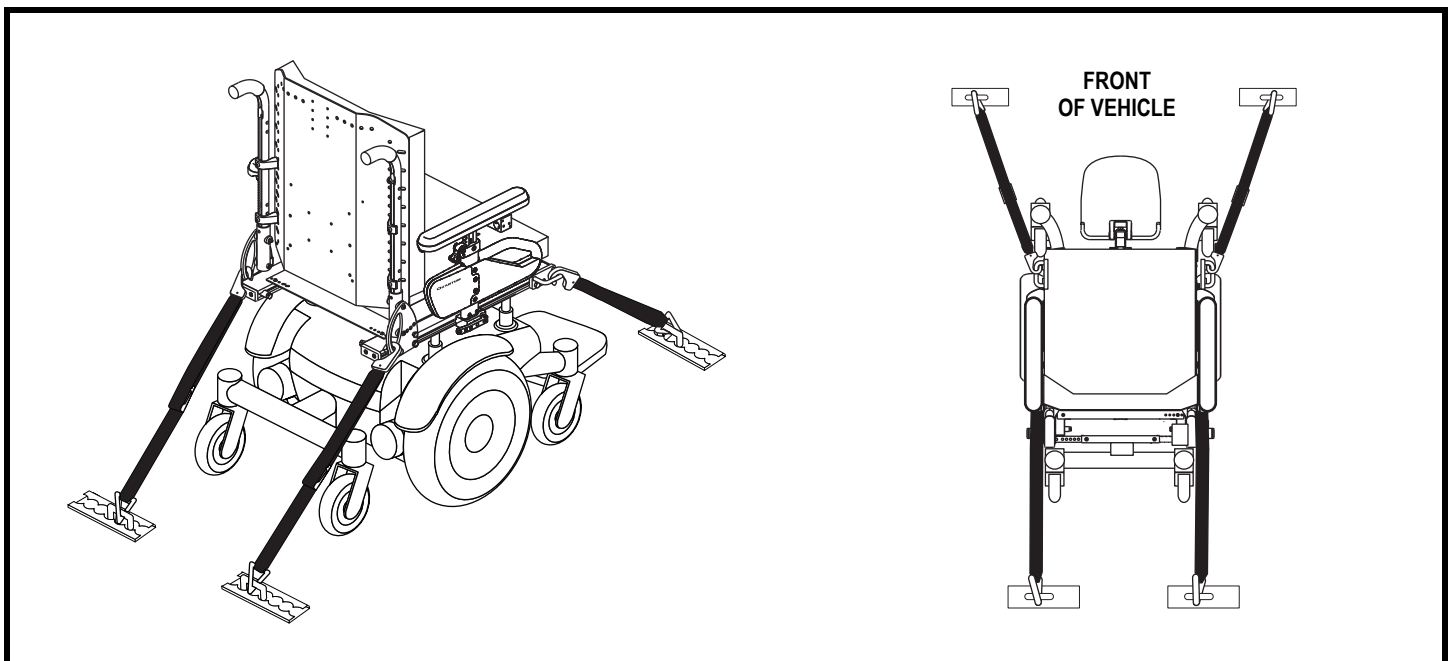

Figure 12. Unoccupied Transit System Securement Points
- Position the anchor points for the rear tie-down straps directly behind the rear securement points on the power chair. The front tie-down straps should be anchored to floor points that are spaced wider than the power chair to provide increased stability. See figure 12.